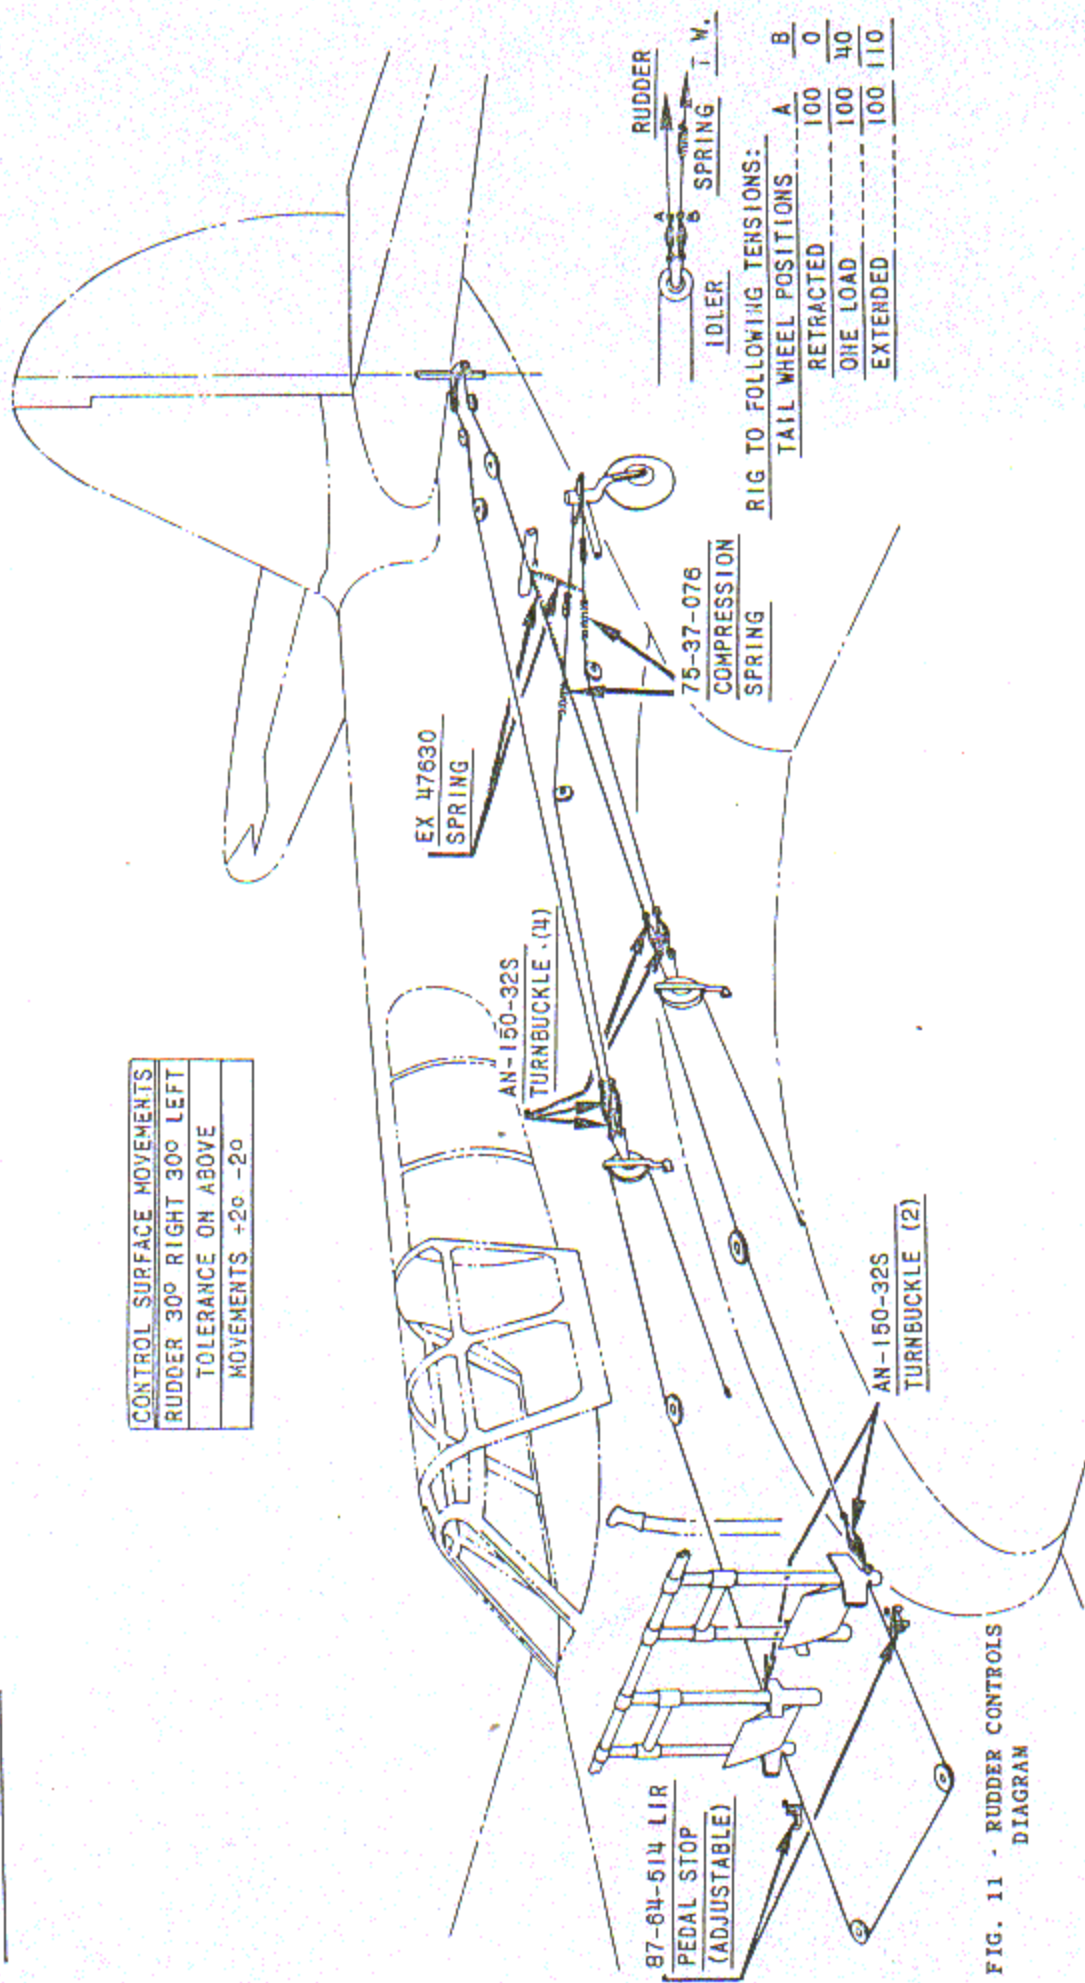

FIG. 11 - RUDDER CONTROLS
Due to the high speed characteristics of this airplane, it is important that the control system be rigged to the cable tension loads specified in Figures 11 and 14.
**Rudder Control System:** To align the rudder control system, place the right pedal in the extreme forward position as indicated by the rudder pedal stop and adjust the turnbuckle so that the arm holding the reduction pulley, when in the extreme forward position clears bulkhead #8 approximately 1/8 of an inch. Repeat for the left pedal. Place the rudder pedals laterally opposite each other (in neutral) and through the fuselage access door in the left side of the fuselage adjust the cables to the rudder to align the rudder with the center line of the airplane and adjust the cables to the tail wheel to align the tail wheel with the centerline of the airplane. Always maintain correct cable tension loads in all control cables. Refer to Figure 11 for correct cable tension data.
Check flight control cables for rigging tension. Refer to Adjustment, 25-Hour, above for rigging data and also Figures 11, 14 and 15.